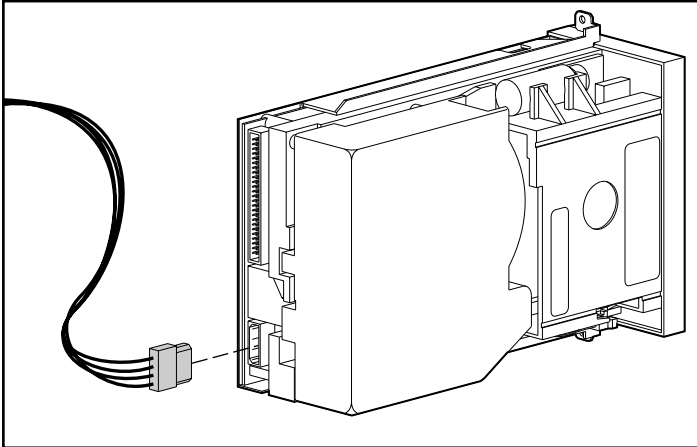

Figure 2-7: Connecting the power cable to the DLT drive
6. Connect the power cable to the tape drive. See Figure 2-7.